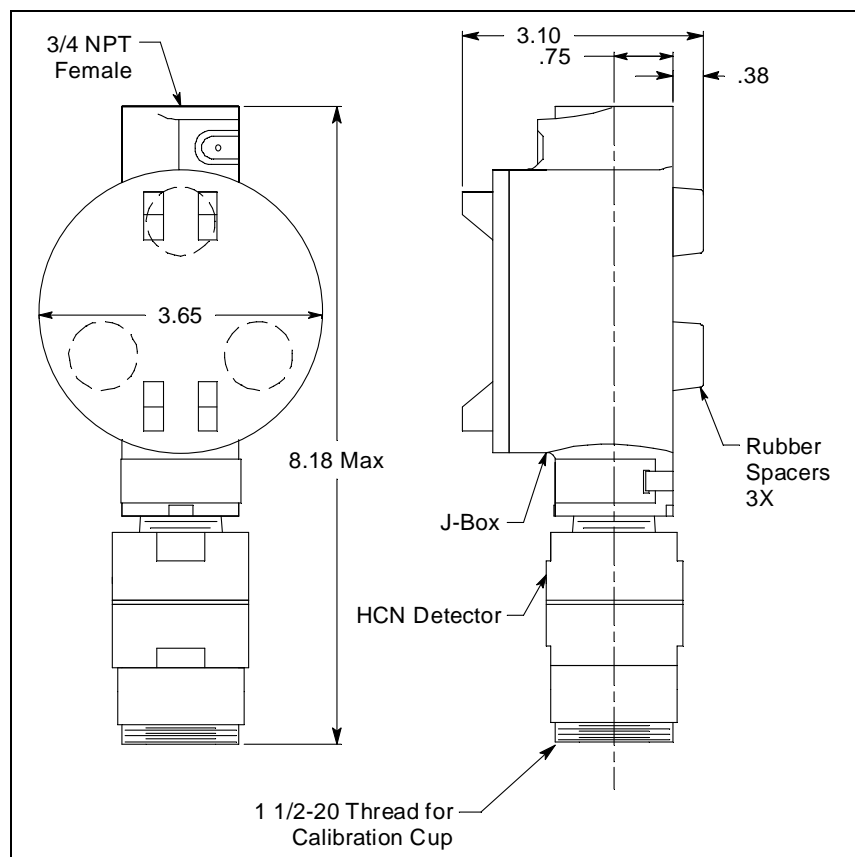

Figure 3: Mounting the HCN Detector
2. At the monitoring site you select, hang or mount the junction box with the detector facing down (see Figure 3).